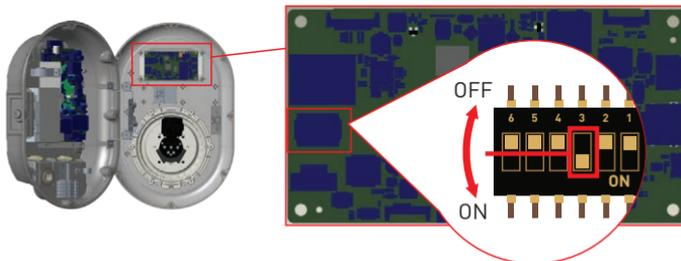

Figure.28
- If you want to enable the web configuration interface, third position of DIP switch should be in "OFF" position as shown in figure 28.
- If you want to disable the web configuration interface, third position of DIP switch should be in "ON" position as shown in figure 28.